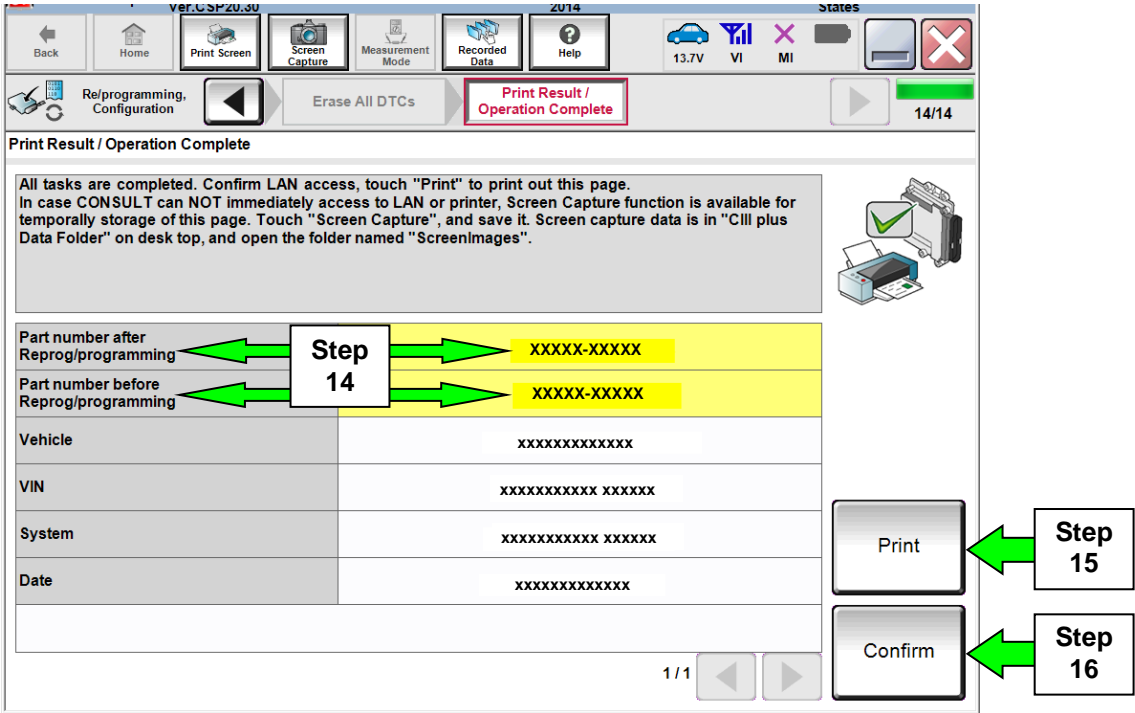

Figure 8
- 13. When the entire reprogramming process is complete, the screen in Figure 8 will display.
- 15. Print a copy of this screen (Figure 8) and attach it to the repair order for warranty documentation.